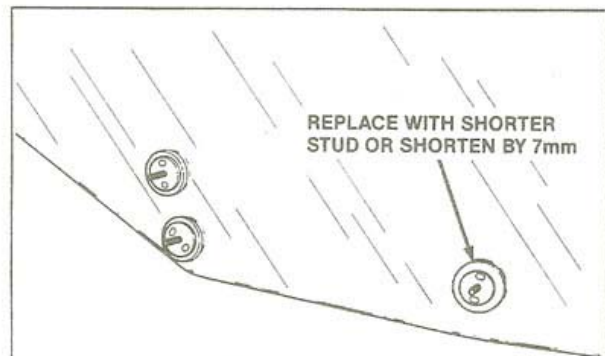

Figure 2. Center Glass Mounting Stud
3. Replace center glass mounting stud with shorter stud or shorten original stud by 7mm (see figure 2).